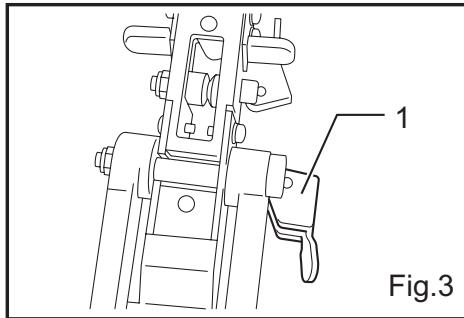

Fig.3
3. Once the locking lever pin is placed into the notch provided on the blade guard assembly it is to be locked into position by pushing the tab of the pin's locking lever into the locked position as shown in Figure 3.